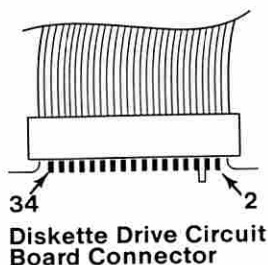

Figure 21. Voltage Check
- Power on the system and check the voltage at pin 16 of the failing diskette drive circuit board (Figure 21).